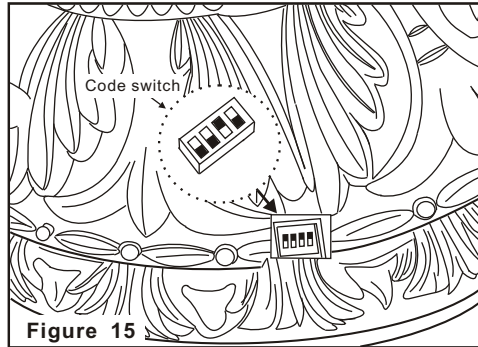

Figure 15
1.The receiver frequency selector is located on the top of the motor assembly plate as show in Fig.15.